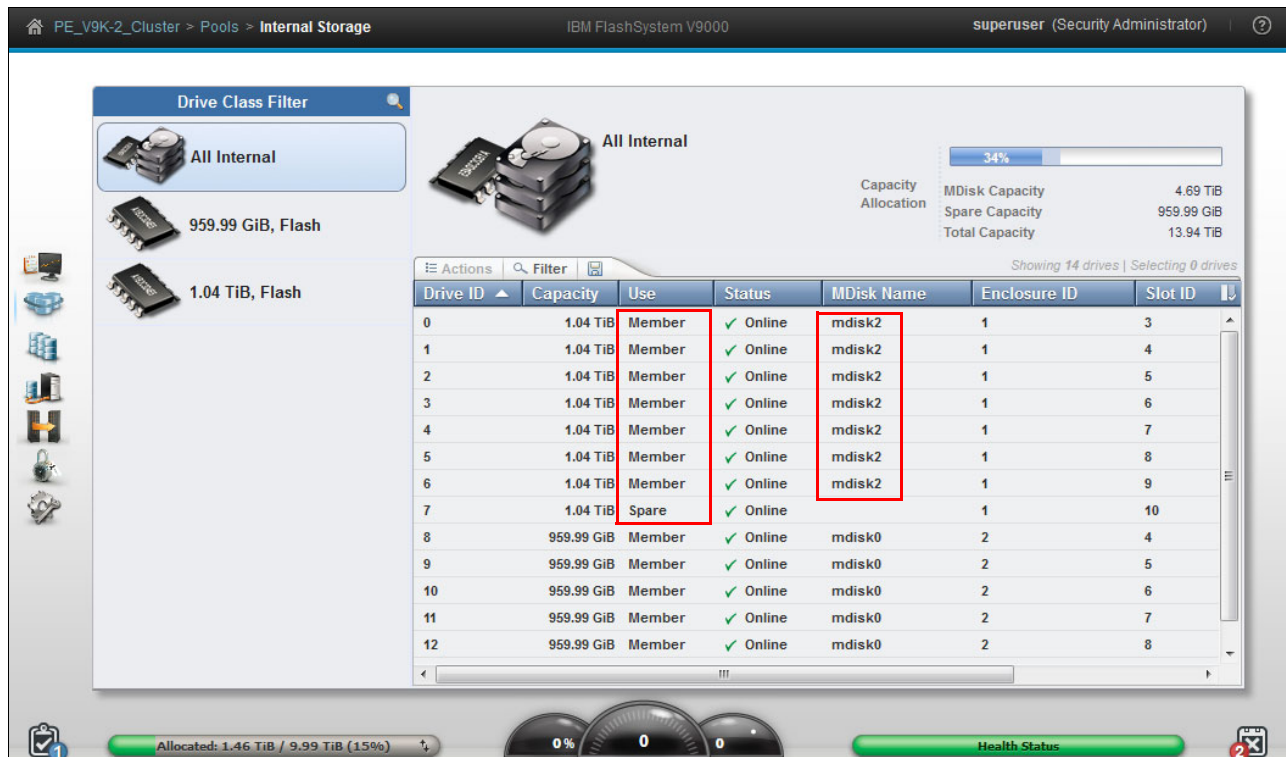

Figure 8-58 The mdisk2 was created
- Return to the GUI and in the Pools > Internal Storage view (Figure 8-58), you now see that what were previously candidate drives are now member drives of mdi sk2.